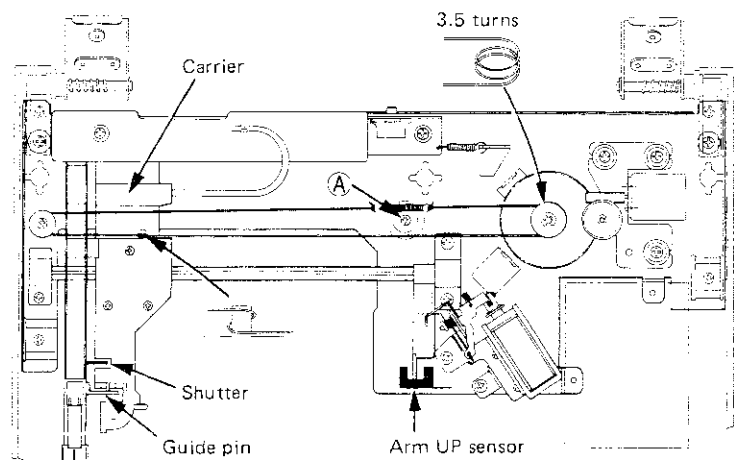

Fig. 14
When setting the tonearm ass'y to the right end, string the carrier rope so that the spring is located above screw (A) shown in Fig. 14.